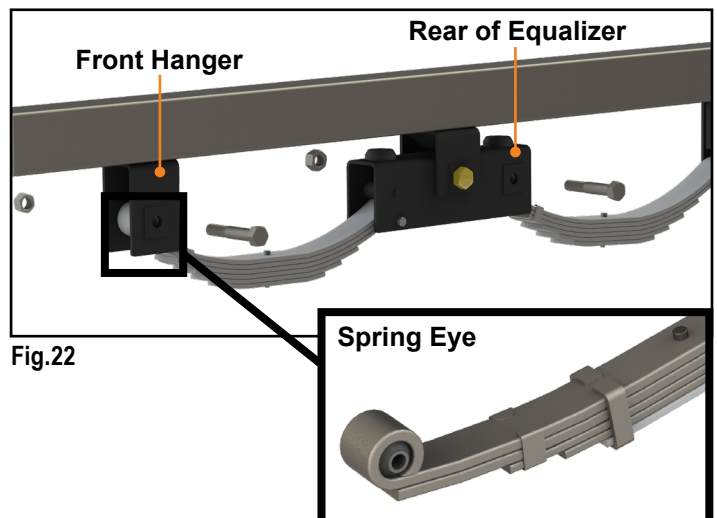

Fig.22
15. Using the 1" bolts, attach the eye of the springs to the front hangers and to the rear of the equalizers (Fig. 22).